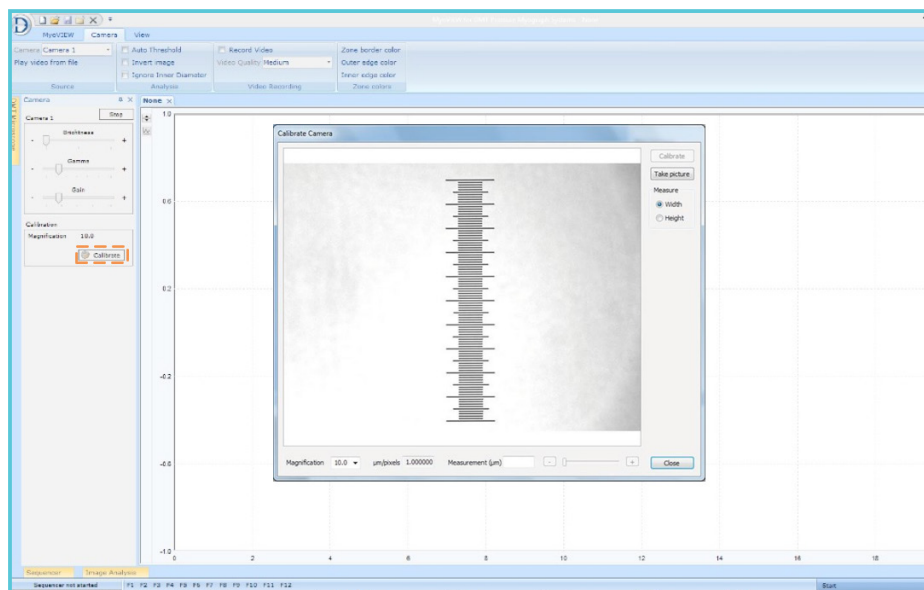

Figure 2.4 Camera Control window - Calibrate Camera
3. To calibrate the camera press the Calibrate icon in the Camera Control window (shown in figure 2.4).